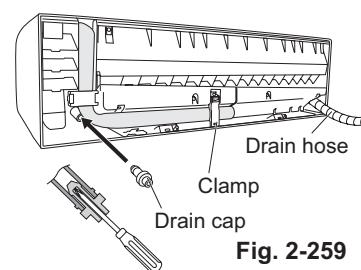

Fig. 2-259
- (d) Reattach the drain hose to the left side and the drain cap to the right side. (Fig. 2-259)
- (3) Install the indoor unit on the rear panel.
- (4) Connect the tubing and wiring led inside from outdoors.
- (5) After completing a leak test, bundle the tubing together with armoring tape and store it inside the tubing storage area at the back of the indoor unit and hold it with clamps. (Figs. 2-259 and 2-261)